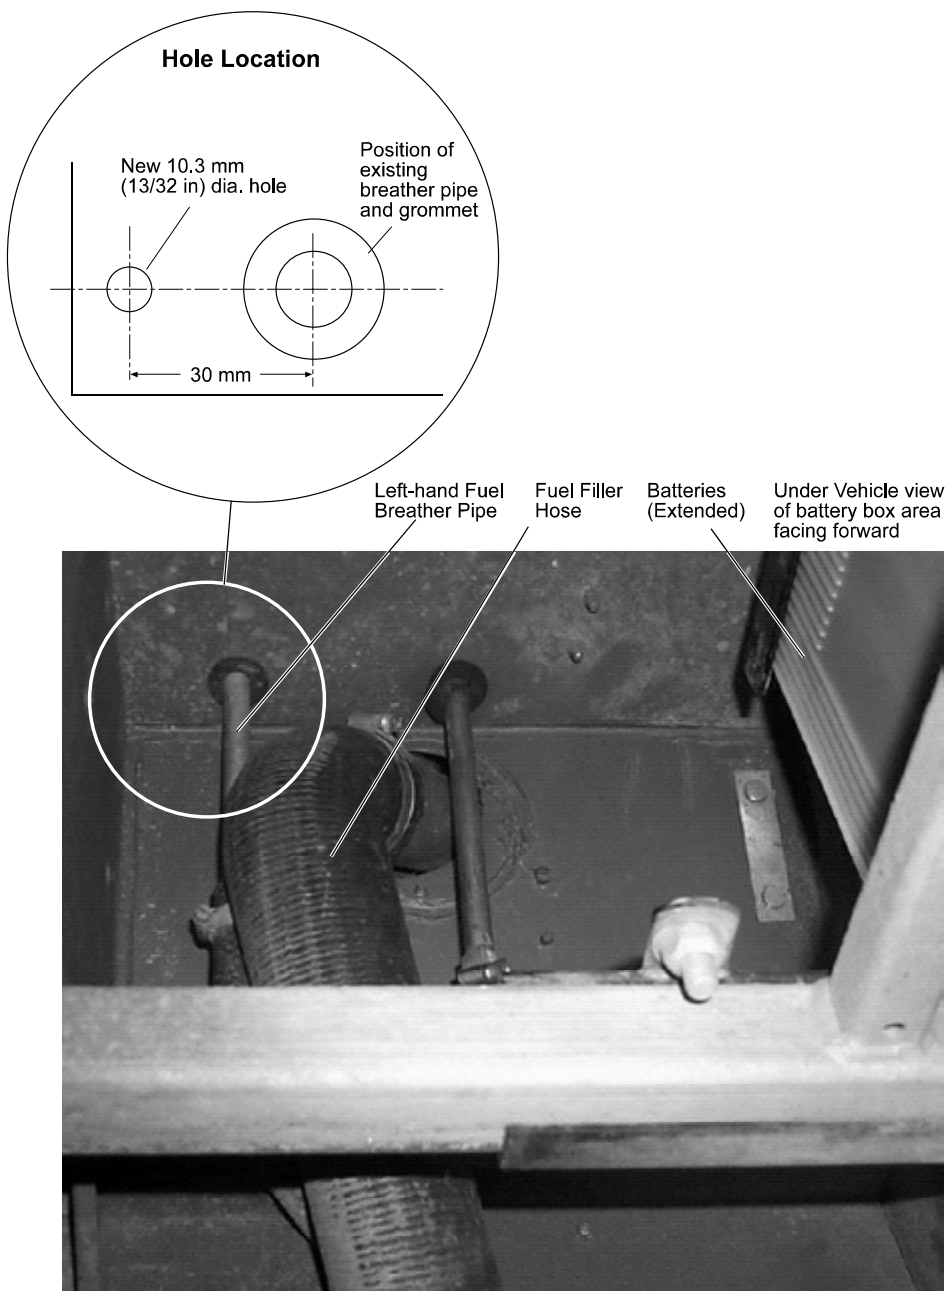

Figure 1 Access Hole Location
- e. From under the vehicle, referring to Fig 1, identify the left-hand fuel tank breather pipe;
- f. Mark and drill a 10.3 mm (13/32 in) through hole in the vehicle sponson as detailed in Fig 1;